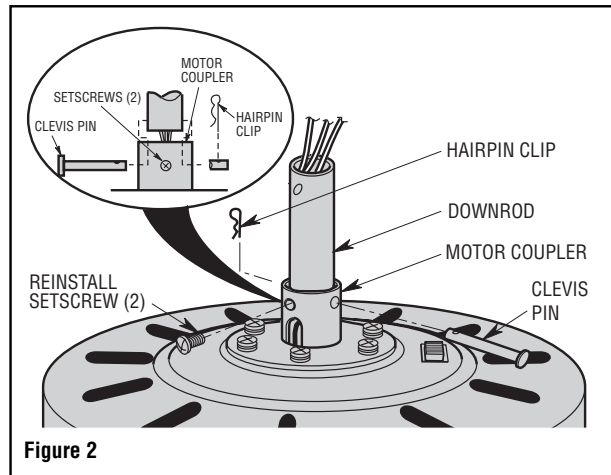

Figure 2
2. Loosen the two setscrews in the motor coupler to prepare for the installation of the downrod (Figure 2).
3. Separate, untwist and unkink the three 80" motor leads. Route the motor lead wires through the downrod. Align the clevis pin holes in the downrod with the holes in the motor coupler. Install the clevis pin and secure with the hairpin clip (Figure 2). The clevis pin must go through the holes in the motor coupler and the holes in the downrod. Be sure to push the straight leg of the hairpin clip through the hole near the end of the clevis pin until the curved portion of the hairpin clip snaps around the clevis pin. The hairpin clip must be properly installed to prevent the clevis pin from working loose. Pull on the downrod to make sure the clevis pin is properly installed.
4. While pulling up on the downrod, tighten the two setscrews in the motor coupler (Figure 2).
**It is critical that the clevis pin in the motor coupler is properly installed and the setscrews securely tightened. Failure to verify that the pin and setscrews are properly installed (as shown in Figure 2) could result in the fan falling.**